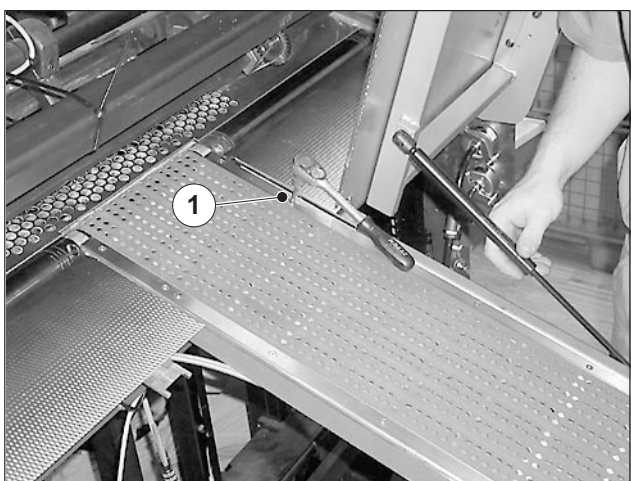

Fig. 87
13. Four screws secure the suction tape module on the feeder frame. Loosen the four screws (Fig. 87/1).